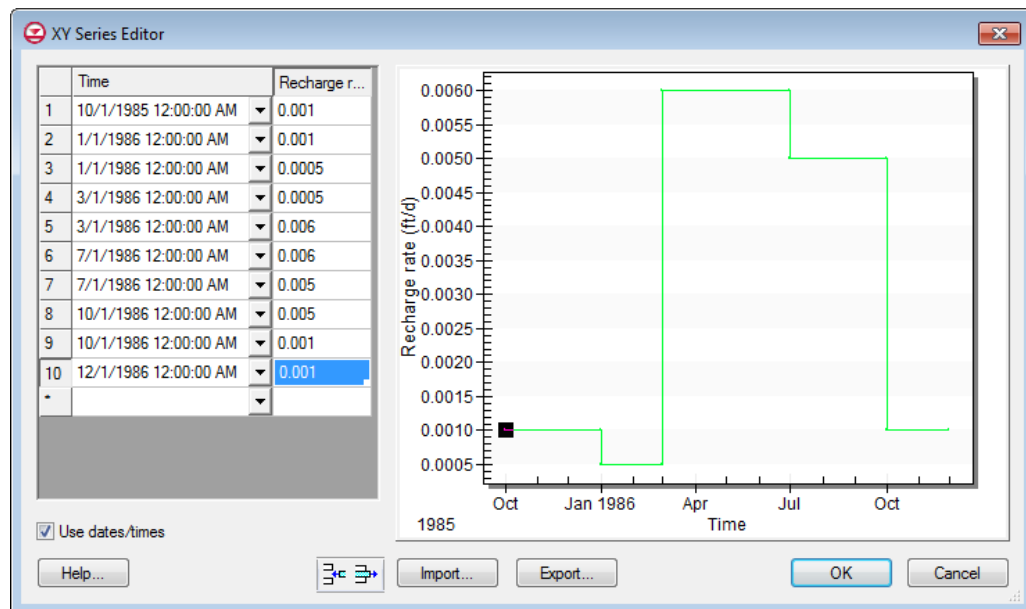

Figure 3 XY Series Editor showing recharge rate
8. Enter the data from the following table into the appropriate columns and rows in the *XY Series Editor* dialog spreadsheet. Once done, the dialog should appear as in Figure 3.
11. Click the  button in the *Recharge rate* column to bring up the *XY Series Editor*. A time series curve of the imported data should now be visible. It should match the one in Figure 3, above.